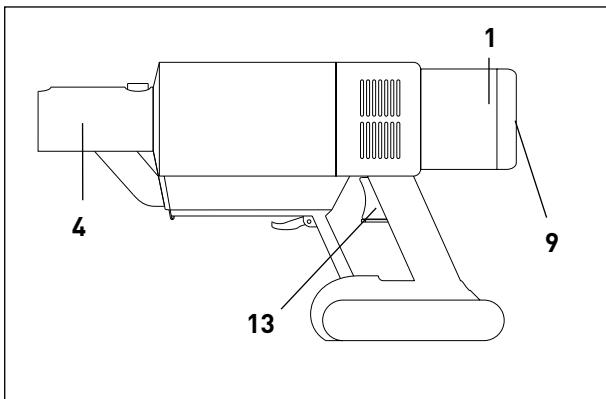

Figure 10
**Starting The Machine - Figure 10** - After connecting the adapter and charging the battery (see pages 7 and 8), the machine is ready for use. The on/off switch (13) turns the machine on. A short press of the switch is sufficient, you do not need to press it continuously.
**Display and Power Control - Figure 11** - The battery level display and power control buttons are located at the rear of the Suction Unit (figure 10).